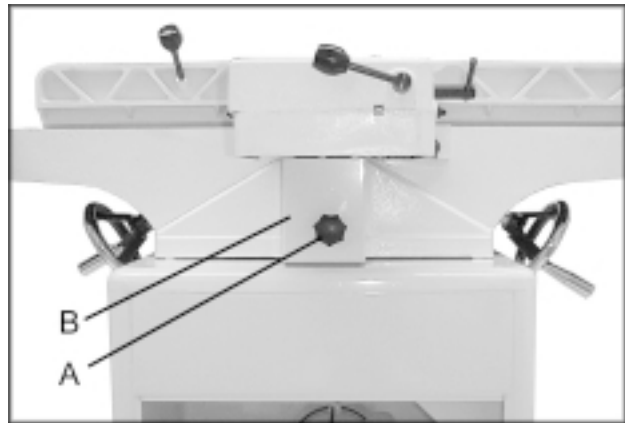

Fig. 14
2. Remove the lock knob (A, Fig. 14) and belt guard (B, Fig. 14).